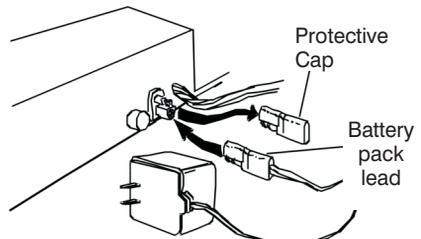

Figure 7
**To charge the battery,** first remove the protective cap from the end of the battery pack lead. Always plug charger lead into battery pack lead before inserting battery charger plug into 120 volt standard household outlet. See Figure 7.